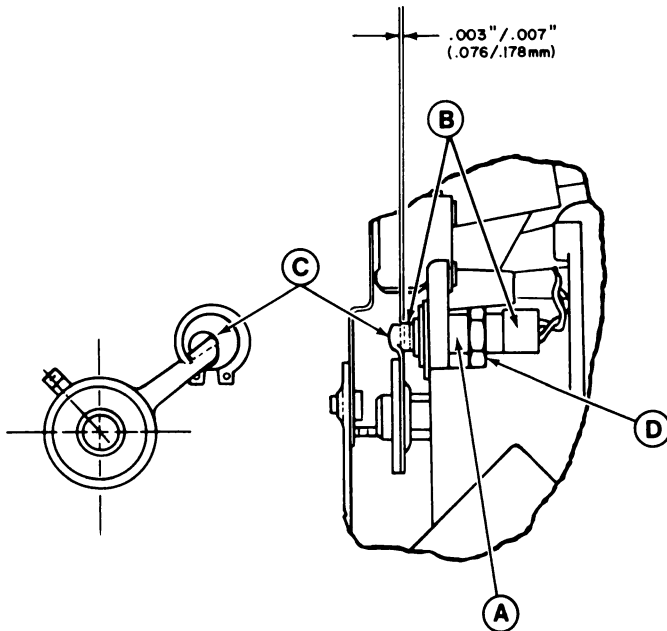

Figure 5-8.
- 7) Using a 7/16" open-end wrench, adjust the home sensor eccentric (Item A, Figure 5-8) to obtain the timing relationship shown in Figure 5-9. The negative edge of -PW HOME should occur at the midpoint of a +PW EVEN high period.
Refer to Figure 5-8.